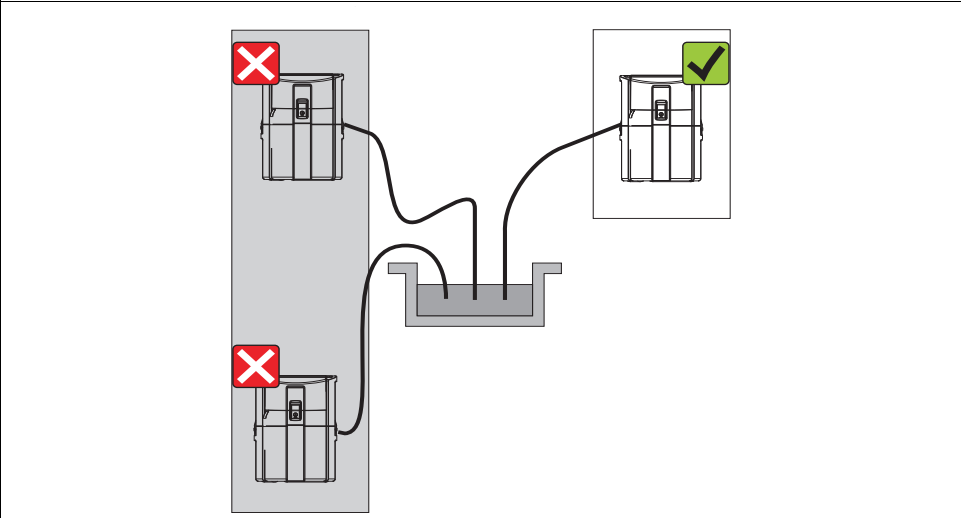

Fig. 3: Mounting location Liquiport 2010 CSP44
Connect the battery charger to the unit connection socket, see Fig. 3, pos. 1. On "low battery" indication the battery is automatically recharged.